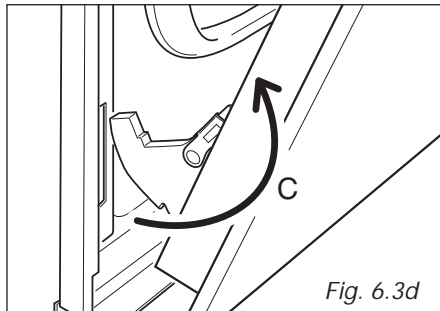

Fig. 6.3d
- Withdraw the hinge hooks from their location following arrow **C** (fig. 6.3d).